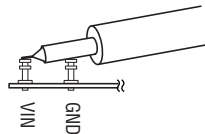

Figure 2. Scope Probe Placement for Measuring Output Ripple
5. When measuring the output ripple, see Figure 2 for the proper technique using the scope probe.